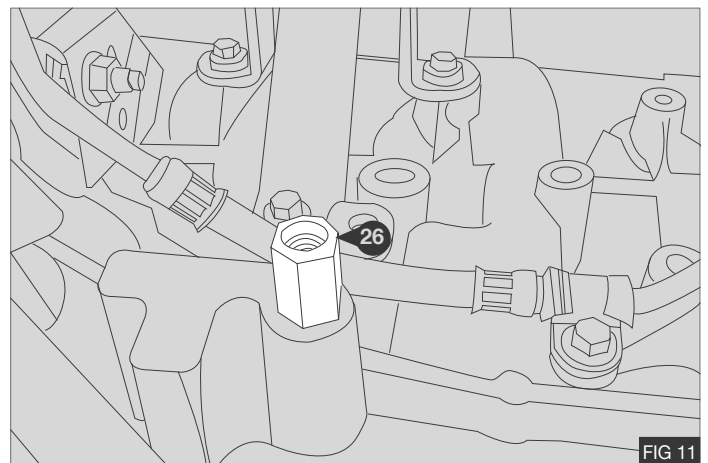

FIG 11
2. Fit the supplied heat sleeving (22) and (23) to the suction and discharge hoses - Fig 11
3. Secure the suction and discharge hoses using the P-Clip (24) and bolt (25) - Fig 11